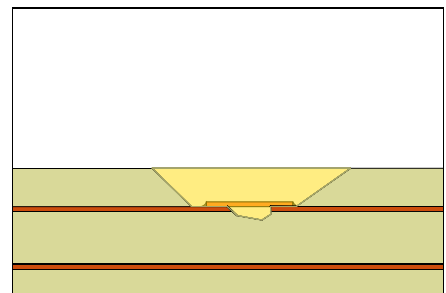

Figure 7: Completed repair.
18. Continue completing all layers until the top surface of the PC board is reached. (See Figure 7).